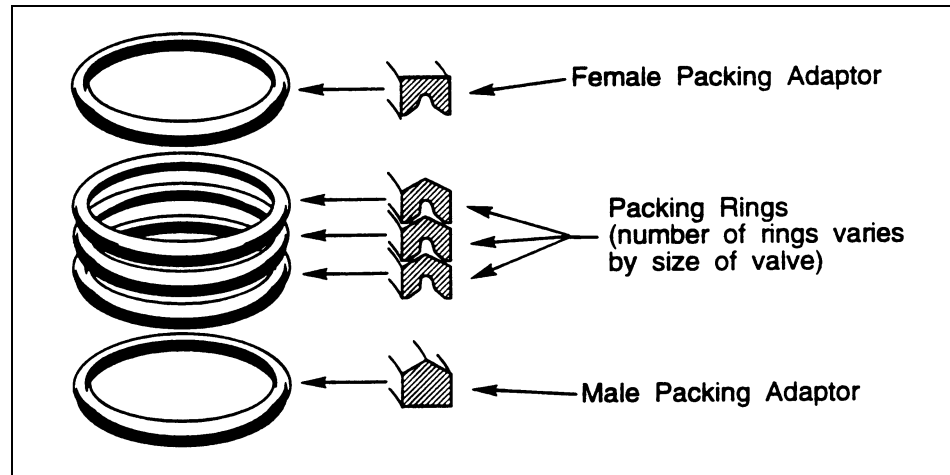

Figure 3—Correct Packing Installation Sequence
8. Lubricate the new packing, then install it one ring at a time as shown in Figure 3.
9. Install the packing one ring at a time. See Figure 3.